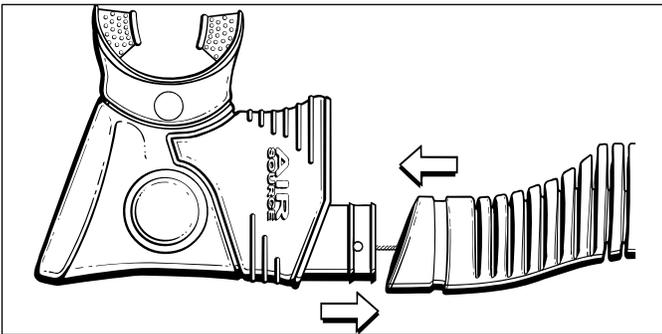

Figure 30
1.4.18 When the crimped retainer of the lower cable is securely seated over the pin, insert the pin through the opposite hole of the inflator barrel, so that it is flush on both sides. Fit the lower hose over the inflator barrel until it is mated flush with the contour of the body (see Fig. 30).